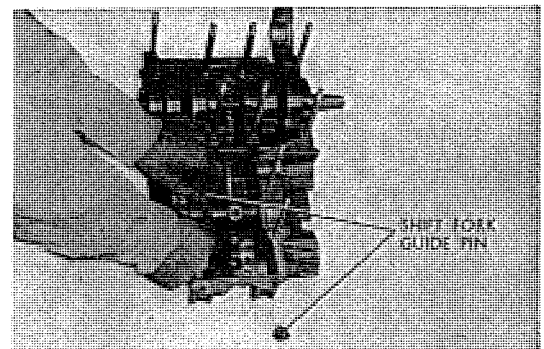

Fig. 3.128 Assembling of shift fork guide pin
3. Assemble the shift fork with the gear shift fork guide pin and position the ear of the lock washer. (Refer to Fig. 3.128)